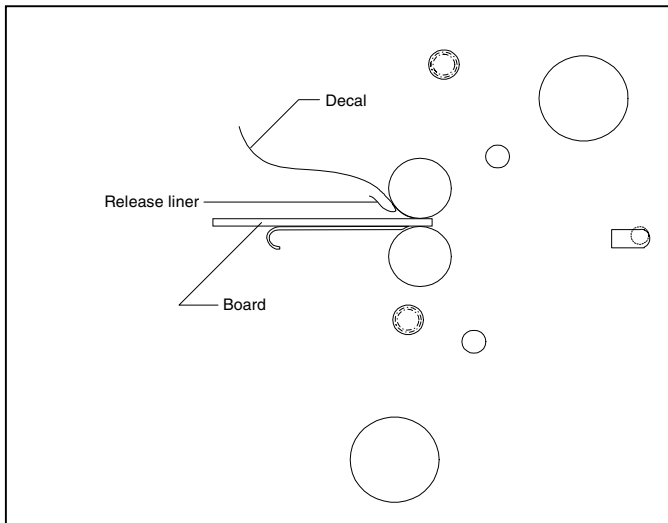

Fig. 33
TIPS FOR MOUNTING A DECAL (Figure 33)
1. Load the laminator as illustrated in Figure 33.